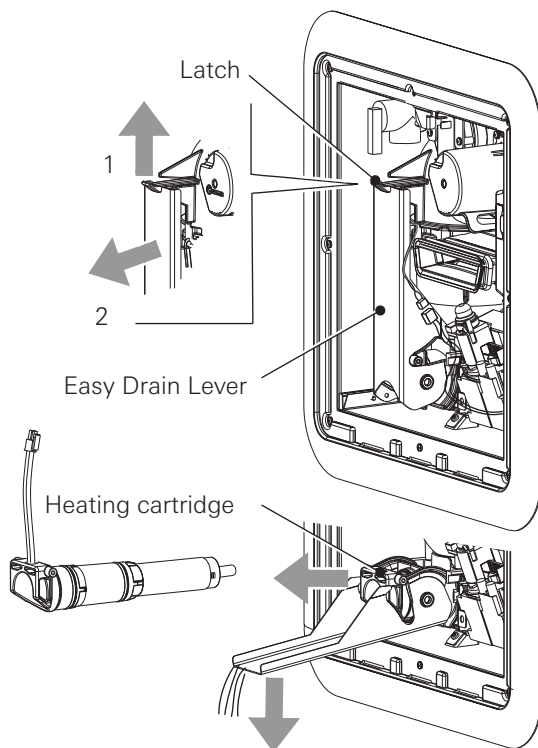

Fig. 11a
9. Remove the heating cartridge as shown in Fig. 11a and rinse it with clean water.